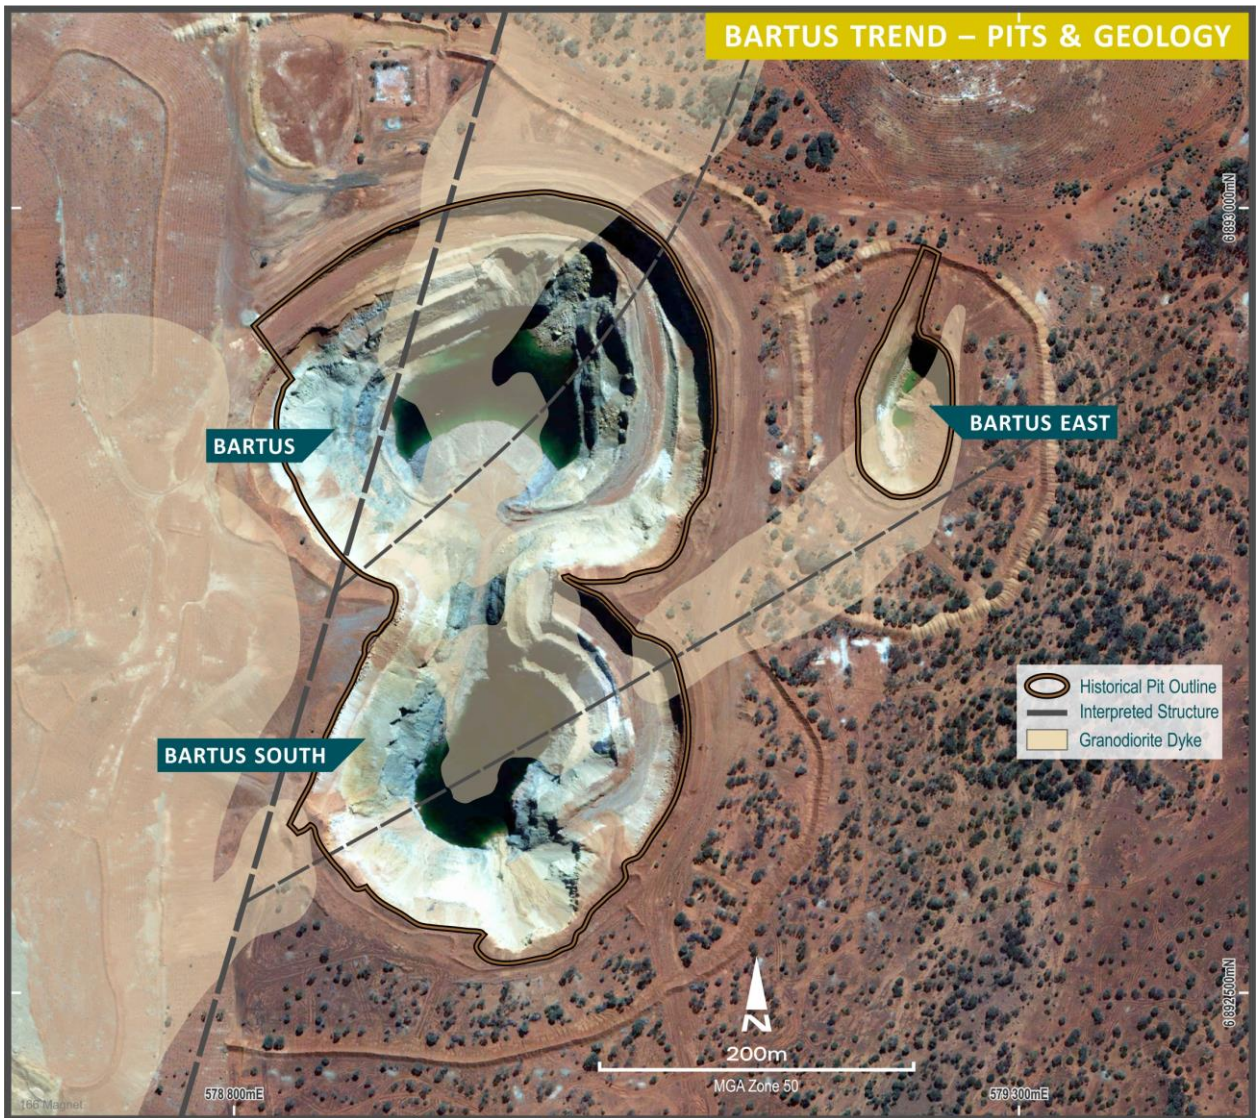

Figure 5: Bartus Trend – Plan view of pits and granodiorite intrusives
- **8.70m at 13.4g/t Au** from 173.5m (refer Figure 5)